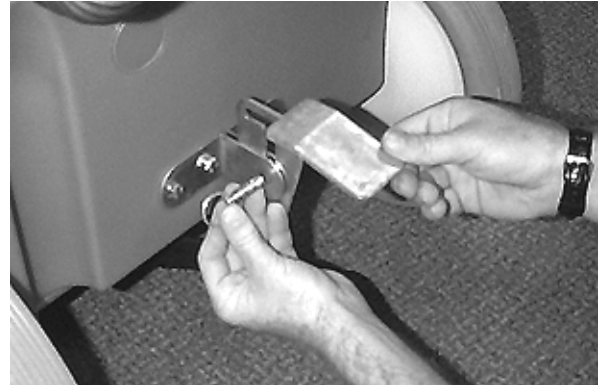

FIG. 6
8. Slide pedal between the two mounting arms on back of machine. Align and insert clevis pin through arms and slot in pedal, secure with cotter pin (Figure 6).